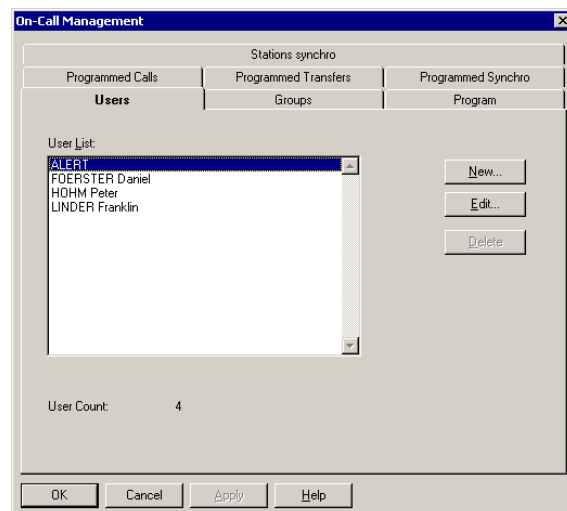

Fig. 7-54: On-Call Management, staff
1. Specify the properties for the On-Call Management. To do this, open "On-Call Management" using this menu: Configuration | On-Call Management. (see Fig. 7-54 and Alert User Manual, Chapter 5.1)